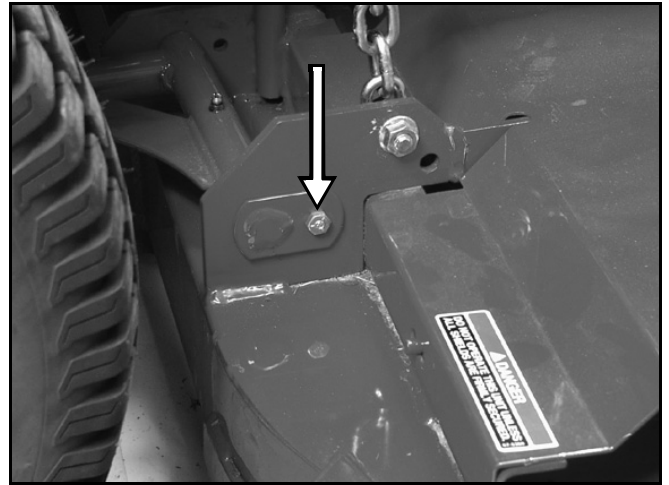

Figure 120
5. Remove the struts from the deck by first removing the nut and bolt that holds the pin to the deck. Slide the pin out of the strut to release it from the deck (Figure 120).